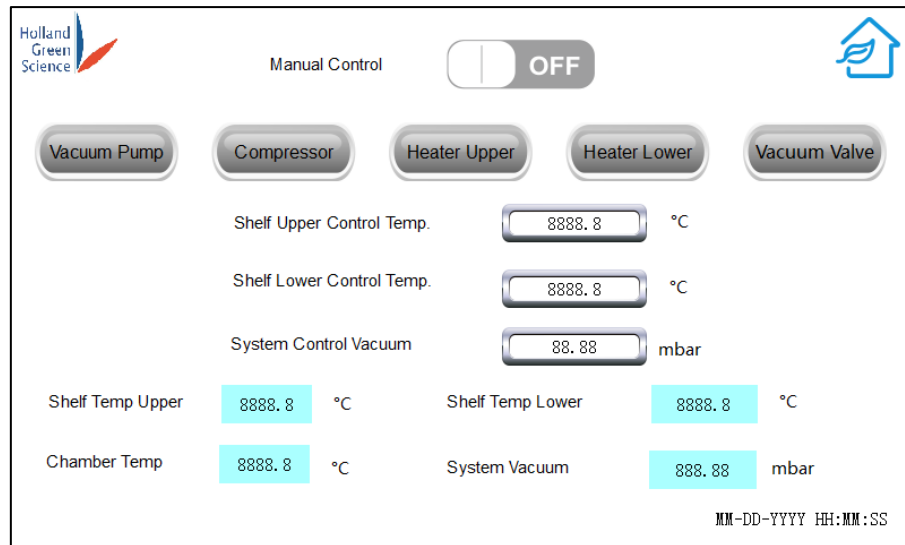

Figure 15
- Turn On/Off the following equipment as desired: vacuum pump, compressor, heater upper, heater lower, vacuum valve (Figure 15).